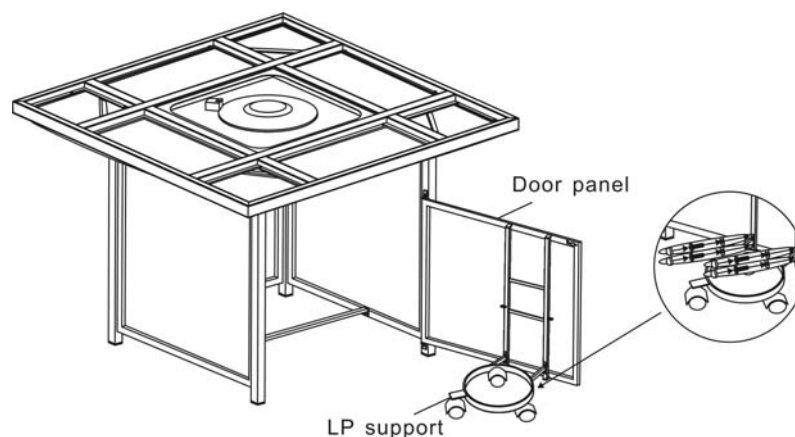

Figure 7
7. Attach the LP support to door panel by using four 1/4"x15 mm bolts and washers as shown in Figure 7. **Do not over tighten.**